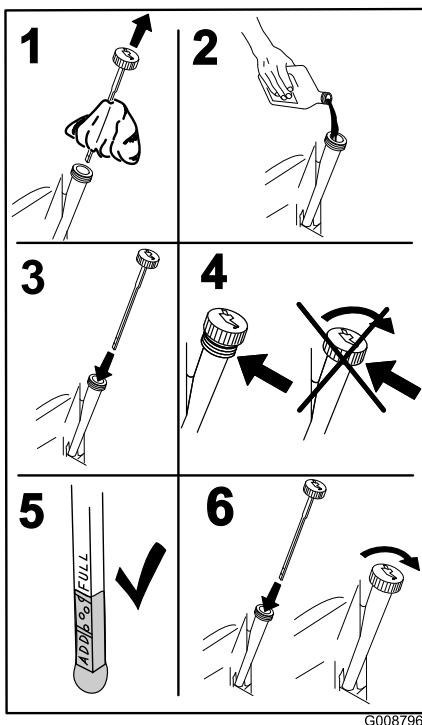

Figure 40
4. Slowly pour approximately 80% of the specified oil into the filler tube and slowly add the additional oil to bring it to the **Full** mark (Figure 40).